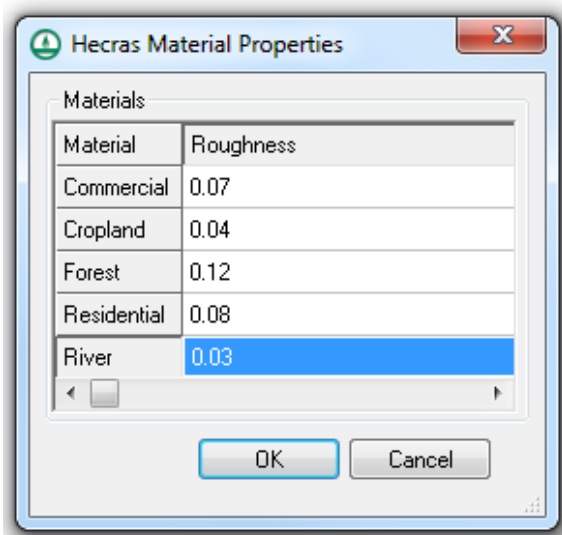

Figure 9 HEC-RAS Material Properties dialog
5. Enter the roughness values for each material as shown in Figure 9.